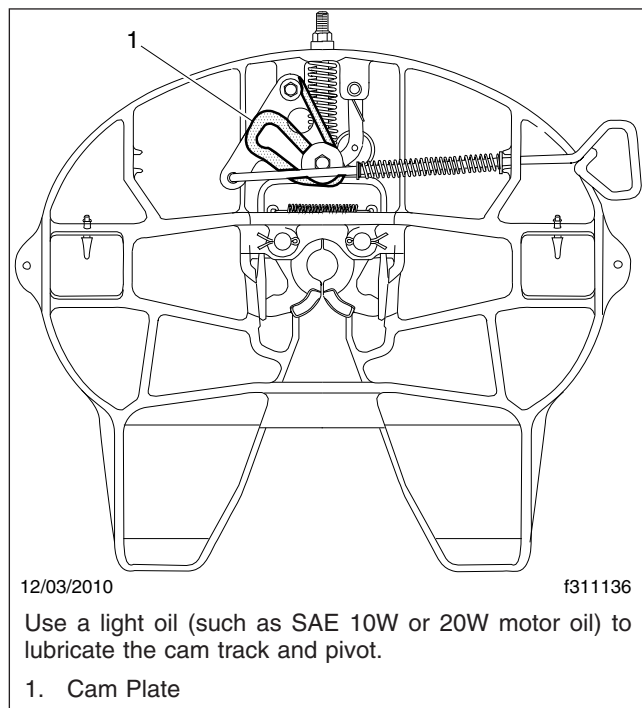

Fig. 9, Holland FW35 Fifth Wheel, Oil Lubrication
2. Using a light oil (such as SAE 10W or 20W motor oil), lubricate the cam track and pivot. See Fig. 9.